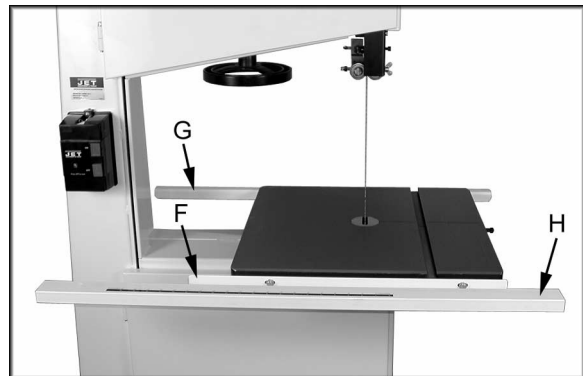

Figure 9
1. Attach the front rail (F, Fig. 9) to the cast iron table with two 1/4" x 5/8" hex cap bolts, two 1/4" lock washers, and two 1/4" flat washers. Bolts should be in approximately the center of the slot. Hand tighten only at this time.
2. Attach the rear rail (G, Fig. 9) to the table with two 1/4" x 5/8" hex cap bolts, two 1/4" lock washers, and two 1/4" flat washers. Bolts should be in approximately the center of the slot. Hand tighten only at this time.
5. Attach the guide tube (H, Fig. 9) to the front rail with five 1/4" x 5/8" hex cap bolts, five 1/4" lock washers, and five 1/4" flat washers. Bolts should be in approximately the center of the slot.